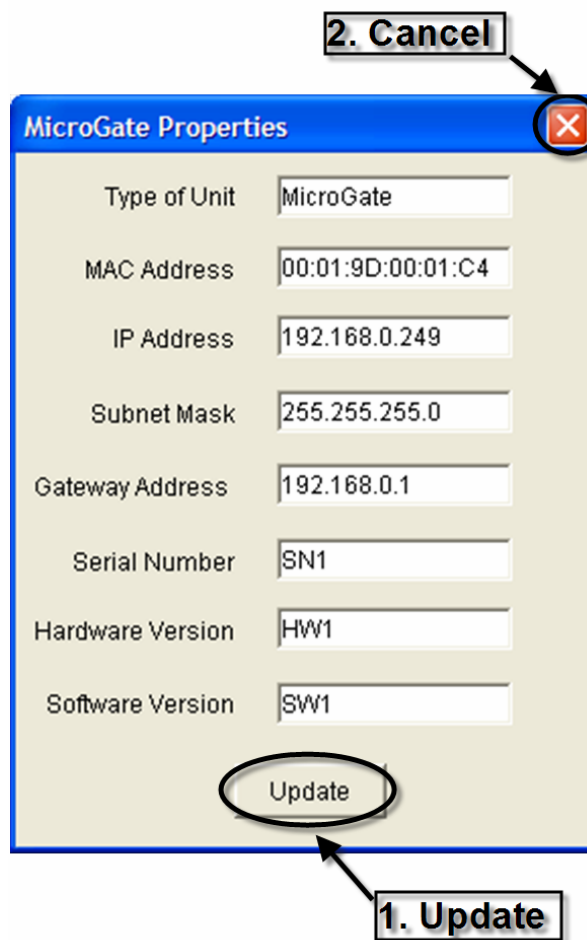

Figure 7
5. Change the IP Address, Subnet Mask, and Gateway Address as needed and then click on **Update** (see **Figure 7**, note #1) to send configuration to the unit. To quit without updating the unit, click on the **X** (see **Figure 7**, note #2)